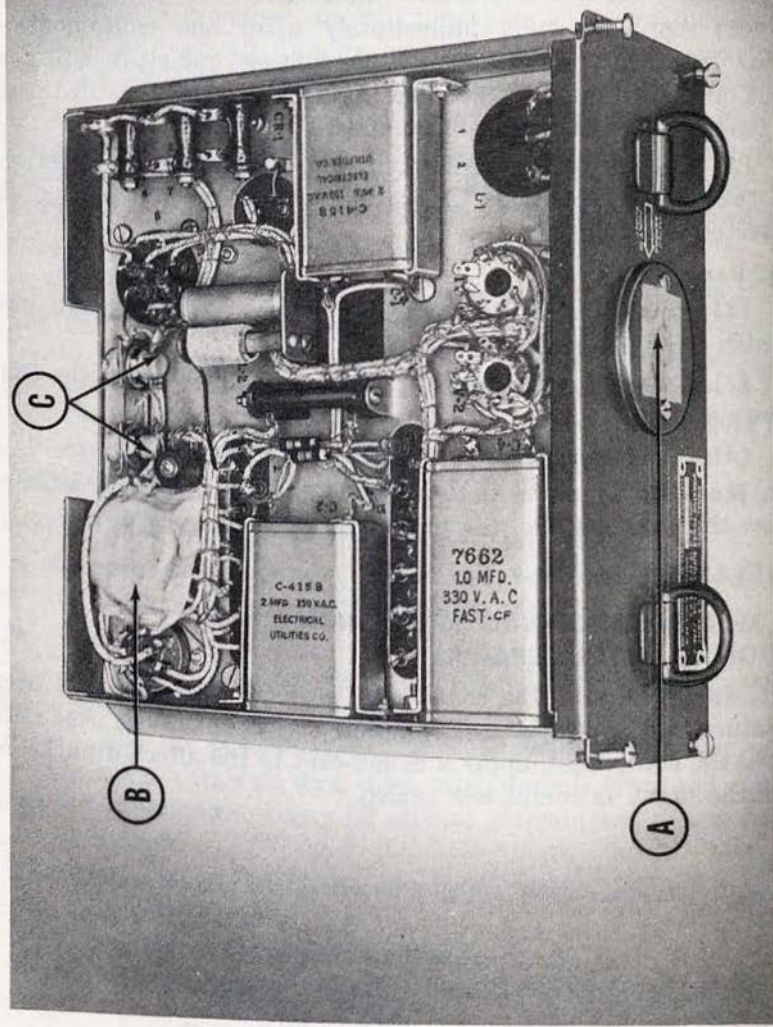

Figure 8. Vibrator Power Supply PP-114/VRC-3, bottom view of chassis, masked.
(1) Remove the four screws which hold the vibrator power unit to the case.
(2) Lift the chassis from the case. *Do not treat the case.*
d. **Masking.** Cover the following parts with masking tape as shown in figures 8 and 9:
(1) Socket on front panel (item A, fig. 8).
(2) Voltage selector switch (item B, fig. 8).
(3) Openings at ends of jack (item C, fig. 8).